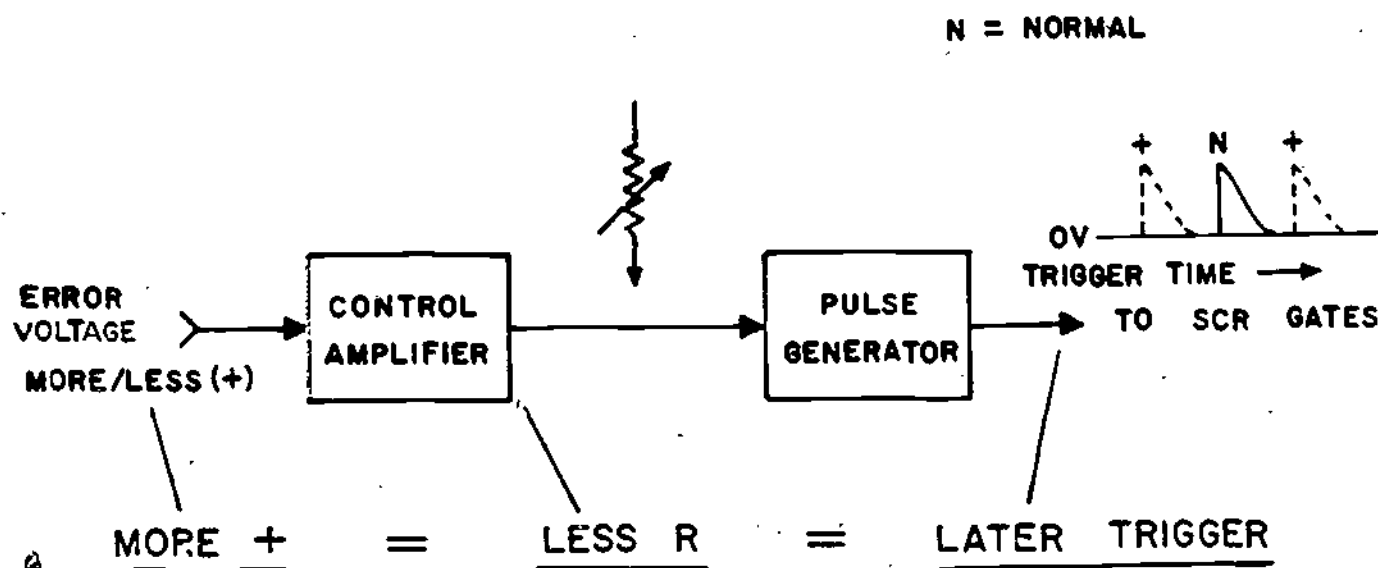

Figure 2
3. Figure 2 shows pictorially how the SCR's conduction time is controlled.
Notice the waveforms shown in the upper right hand corner of Figure 2. These waveforms indicate trigger time in relation to the input error voltage. The waveform on the left shows that when the error voltage is less positive, the pulse generator triggers the SCR gates earlier, and the waveform on the extreme right shows that when the error voltage is more positive, the pulse generator triggers the SCR gates at a later time. Make sure you understand how the error voltage influences the pulse generator before proceeding further with this lesson.